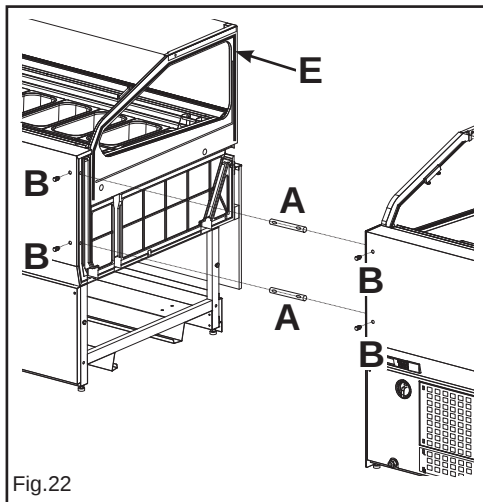

Fig.22
- Stick the adhesive gasket along the edge of the glass. (fig. 22 pos.E). The seal is standard equipment in the accessory pack.
- Insert the pins on the operator side (fig. 22 pos.A)